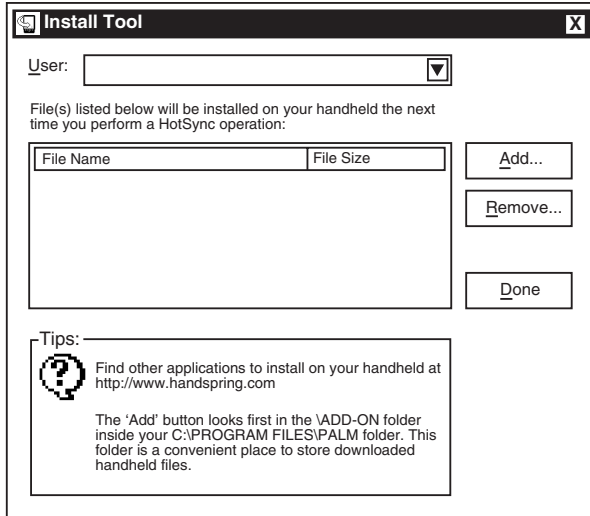

Figure 2-10 Download Directory
- c. Verify the file **Install M-3811 Palm** or **Install M-3811 Visor** is displayed in the download directory (Figure 2-10), then select **Done**.